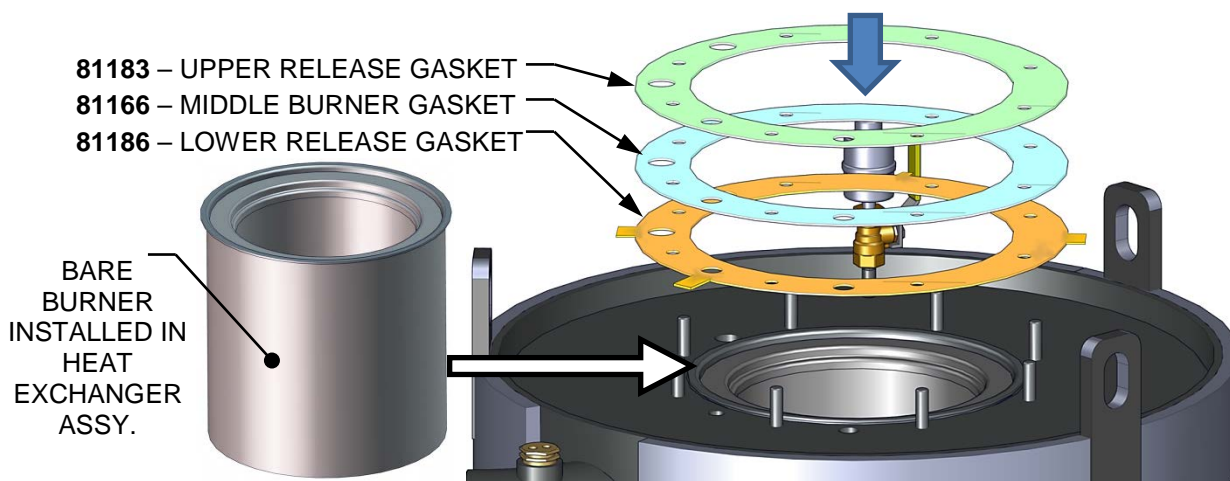

Figure 4-6: Bare Burner and Replacement Gaskets Location
14. Remove and replace the burner gasket(s) (see Figure 4-6, below).
ALL THREE gaskets provided for maintenance **MUST** be installed during this procedure, as shown in Figure 4-6, even if there is only one existing gasket being replaced. Note that the **LOWER RELEASE GASKET** has tabs, which the others do not.